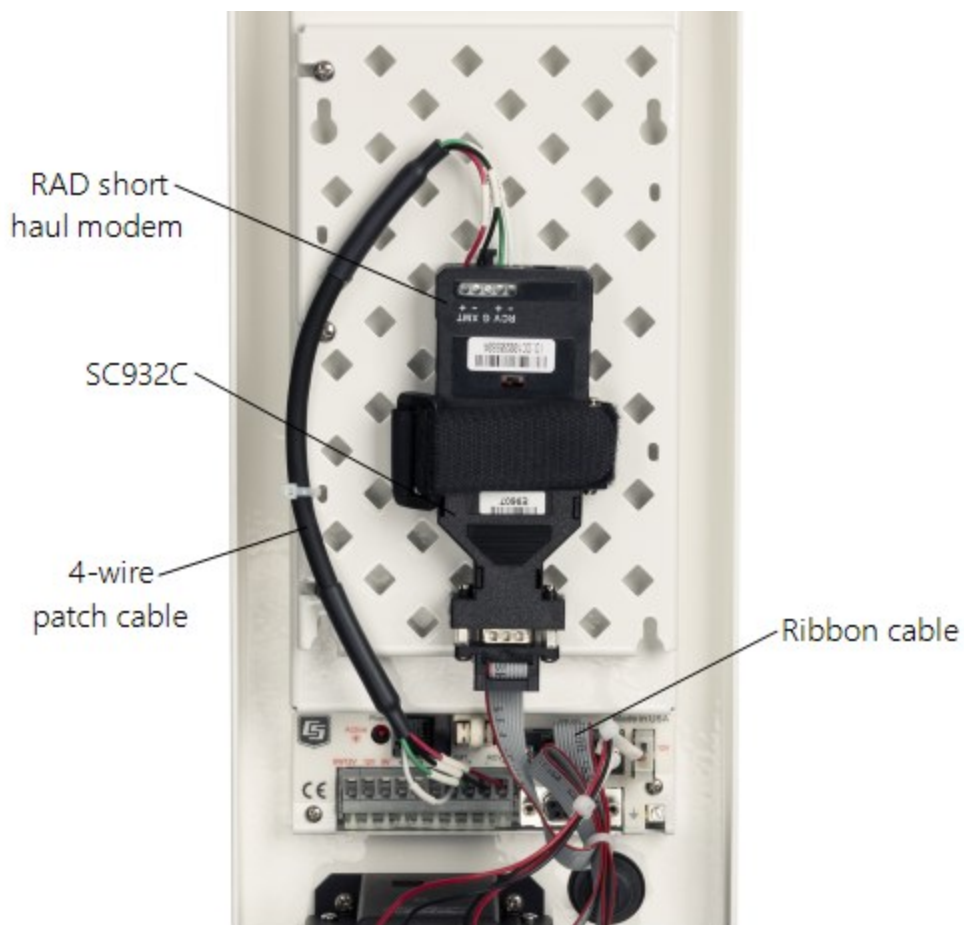
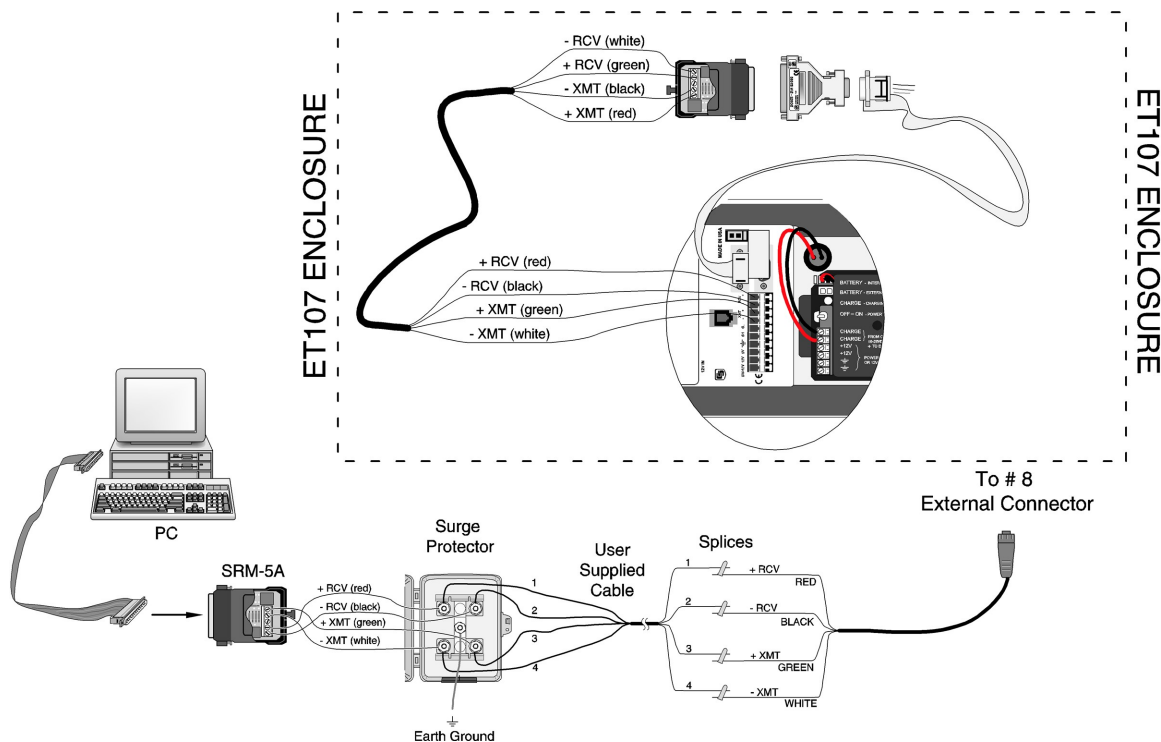

FIGURE 6-24. Short-haul modem mounting and connection (battery not shown)
FIGURE 6-25. Short-haul modem wiring diagram
Use the following procedure to install the short-haul modems (FIGURE 6-24 (p. 40) and FIGURE 6-25 (p. 41)).
4. Connect the SC932C 9-pin port to the internal enclosure **CS I/O** port with the ribbon cable supplied with the enclosure (FIGURE 6-24 (p. 40)).
Use the following procedure to install the short haul modems (FIGURE 6-25 (p. 41)).